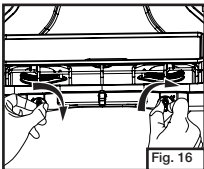

Fig. 16
- Close both burner valves firmly. (Fig. 16)